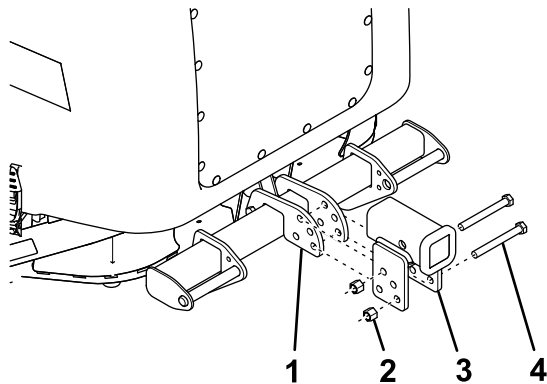

Figure 9
1. Secure the hitch receiver to the rear of the vehicle using 2 bolts (1/2 x 4-1/2 inches) and locknuts (Figure 9).